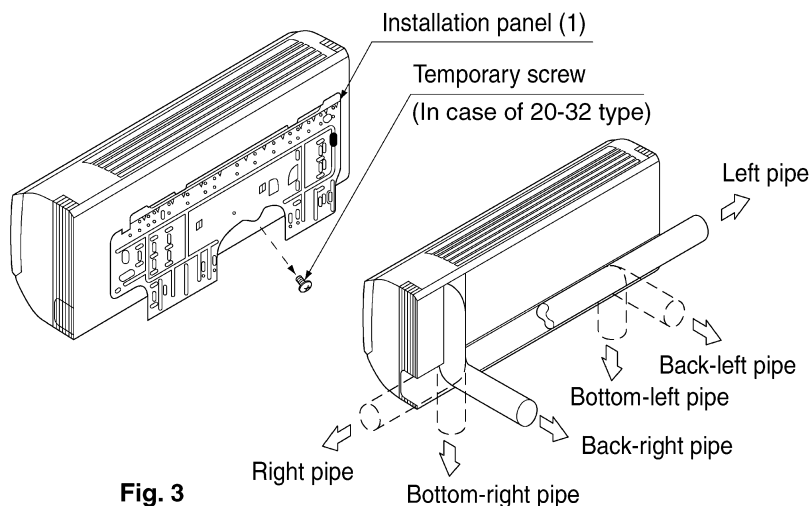
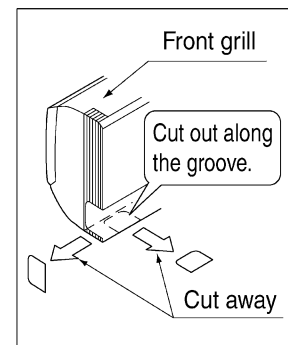

Fig. 3
Fig. 4
- The refrigerant pipe and drain pipe can be passed out in one of 6 directions: left, bottom-left, back-left, right, bottom-right, and back-right. **(Refer to Fig. 3)**
- Using the paper pattern for installation (3), choose where to pass the piping out and open a through-hole ( $\phi 80$ ) in the wall.
**(Refer to Fig. 3)**
- Check the location for the hole using the included paper pattern for installation (3).
- Temporarily attach the installation panel (1) at the temporary-securing position on the paper pattern for installation (3) and use a level to make sure the drain hose is either level or tilted slightly downward.
- Secure the installation panel (1) to the wall using either screws or bolts.
- If using the attachment screws for the installation panel (2), attach using at least 4 screws on either side (for a total of 8 screws (20-32 type), 9 screws (40-63 type)) of the recommended installation cleat position on the included paper pattern for installation (3).
### (3) If using the left, bottom-left, right, or bottom-right positions for the piping, cut out the through-hole for the piping in the front grill. (Refer to Fig. 4)